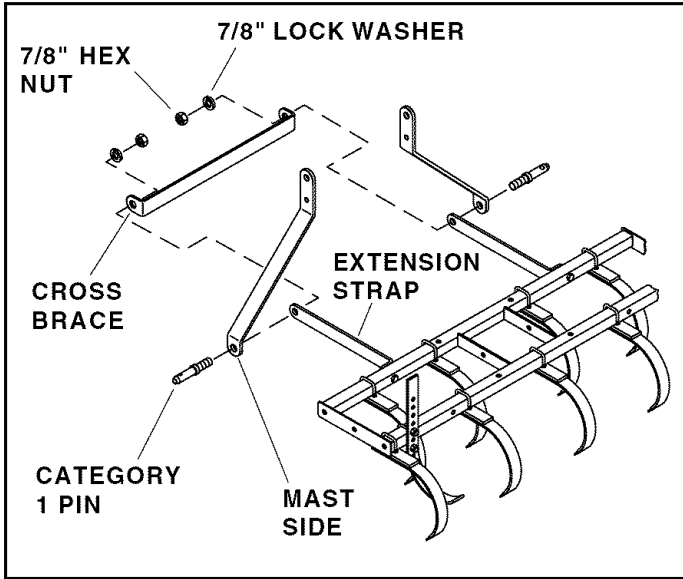

FIGURE 4
- Attach the cross brace and the two mast sides to the ends of the mast extension straps. The cross brace is between the extension straps while the mast sides are on the outside. The cross brace and mast sides are connected to the extension straps using two category 1 pins, two 7/8" lock washers, and two 7/8" hex nuts. **Do not tighten yet.** See figure 4.